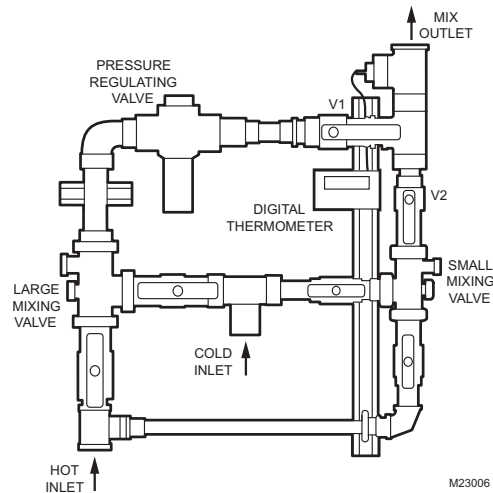

Fig. 1. High - Low Temperature Control System Installation.
1. Honeywell High – Low Temperature Control System must be installed per Fig. 1.